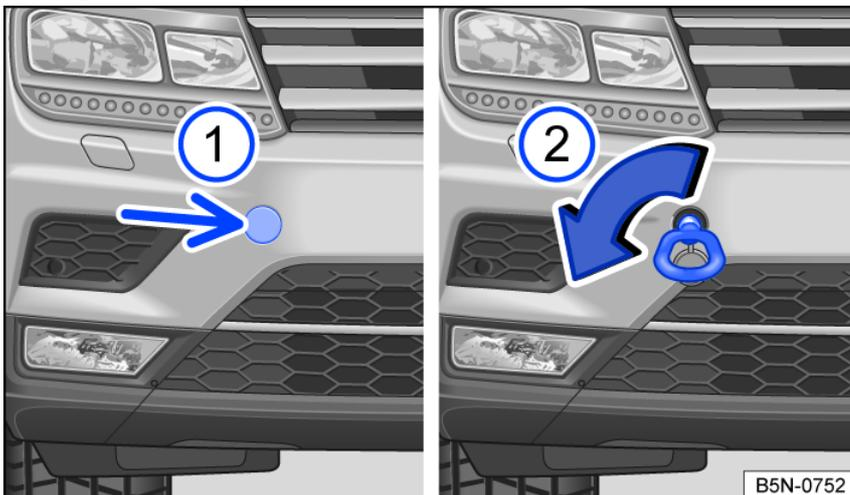

Fig. 193 In the right front bumper: towing eye.
- Press on the corresponding part of the cover to release the lock on the cover fig. 193 ①.
- Rotate the towing eye in the direction of the arrow as far as possible to install it in the mount fig. 193 ② ⇒ ⓘ. Use a suitable object to tighten the towing eye completely and securely in the mount.